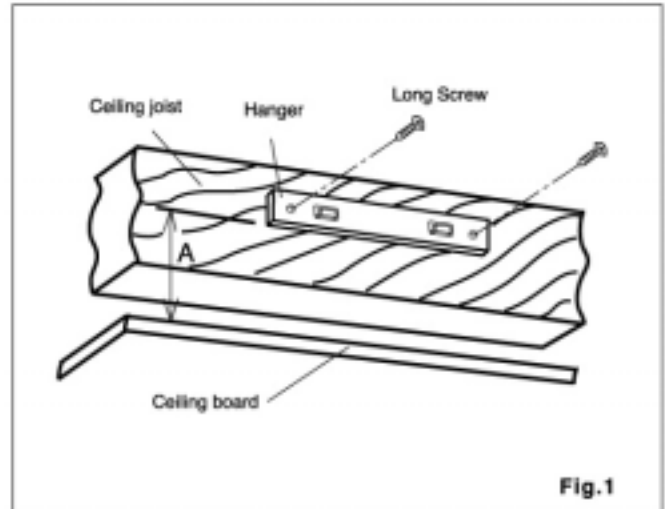

Fig.1
2. Fix the hanger to the ceiling joist. Keep distance "A" between the hanger and ceiling board (table 1). Use two long screws to fasten the hanger. (Fig.1)